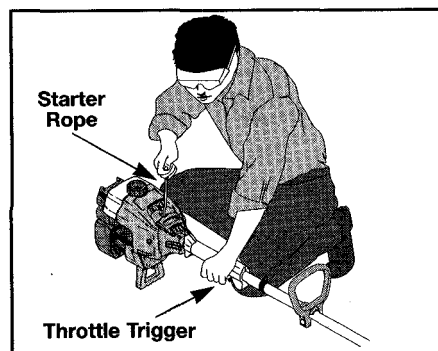

Fig. 12
5. **WITH THE UNIT ON THE GROUND, SQUEEZE THE THROTTLE TRIGGER FULLY AND PULL THE STARTER ROPE BRISKLY** (Fig. 12) until the engine sounds like it wants to run (normally 2 to 5 pulls).
7. **PULL THE STARTER ROPE BRISKLY 1 TO 3 TIMES TO START THE ENGINE** (Fig. 12).